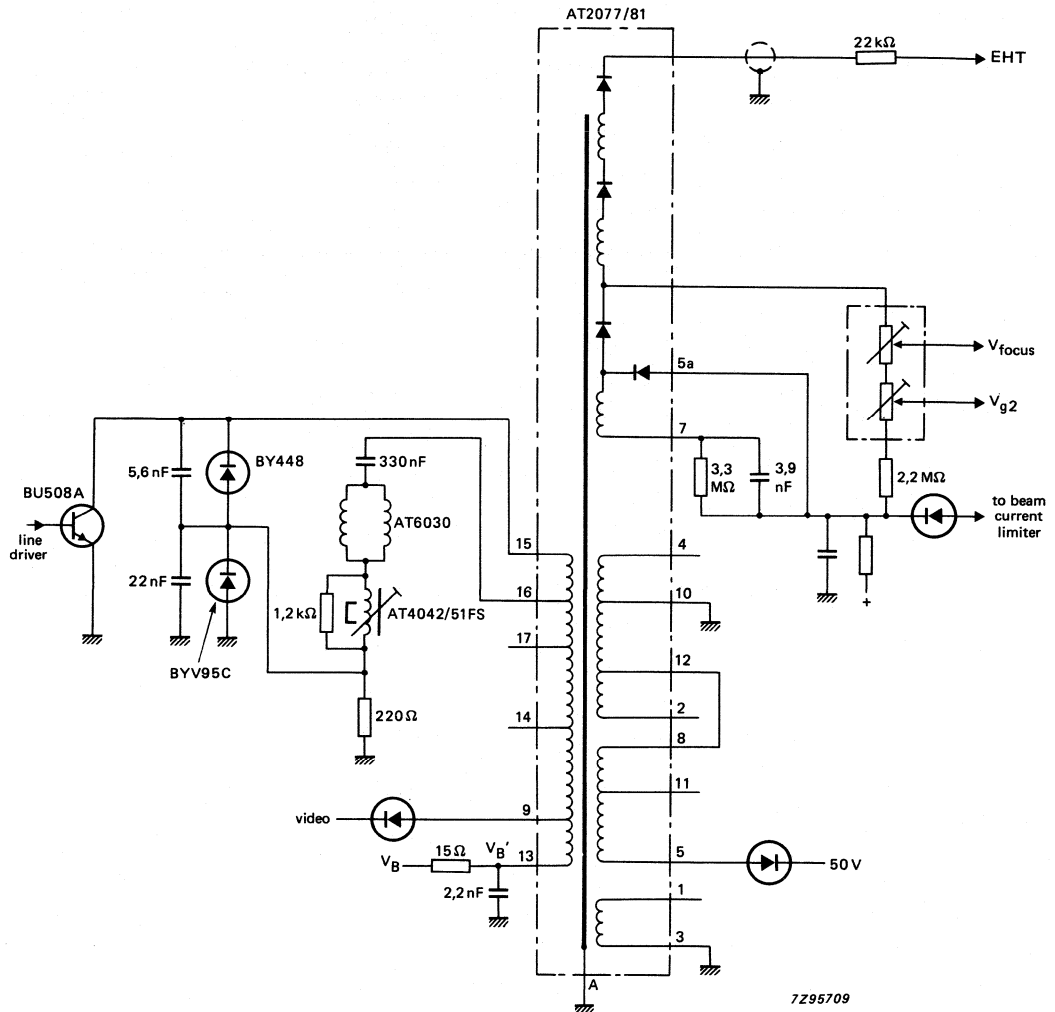

Fig. 8 Application circuit (90°).
**ELECTRICAL DATA;** for use with 51 cm, 90° Flat Square colour picture tube, see Fig. 8.